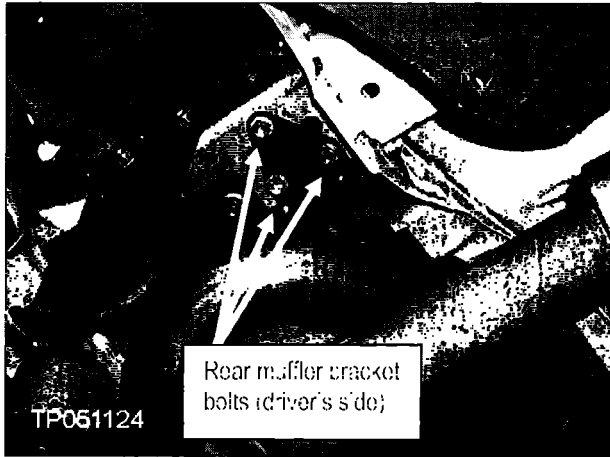

Figure 47a
13. Remove the rear muffler bracket bolts (see Figure 47a and 47b).